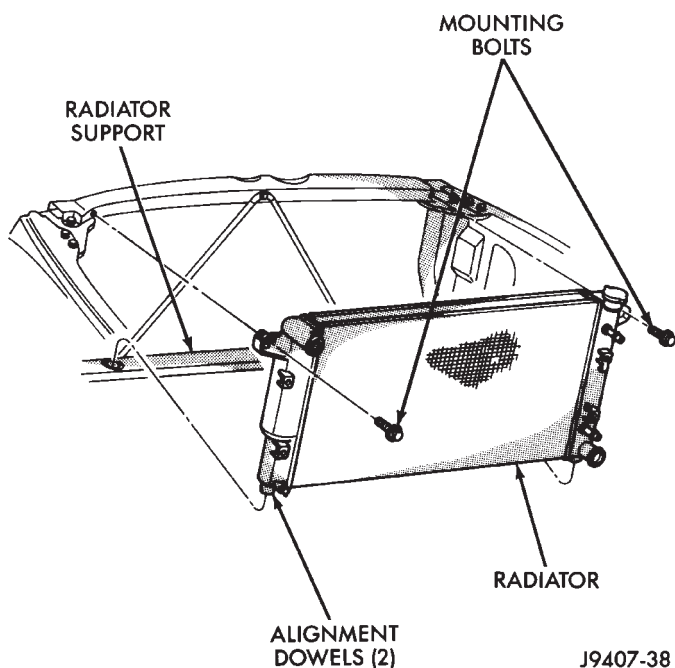

Fig. 82 Typical Radiator Mounting
(11) All Engines **Except 8.0L V-10 and Diesel:** Remove the plastic clips retaining the rubber shields to the sides of radiator. Position rubber shields to the side.
(12) Remove the two radiator upper mounting bolts (Fig. 82).
(13) Lift radiator straight up and out of engine compartment. The bottom of the radiator is equipped with two alignment dowels that fit into holes in the lower radiator support panel (Fig. 82). Rubber biscuits (insulators) are installed to these dowels. Take care not to damage cooling fins or tubes on the radiator and air conditioning condenser when removing.